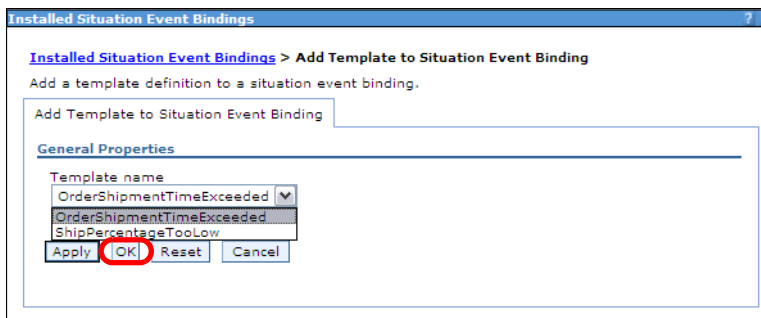

Figure 14-41 Adding template binding to situation event
- ▶ In the prompt, select the `OrderShipmentTimeExceeded` template and click *OK* (Figure 14-41).